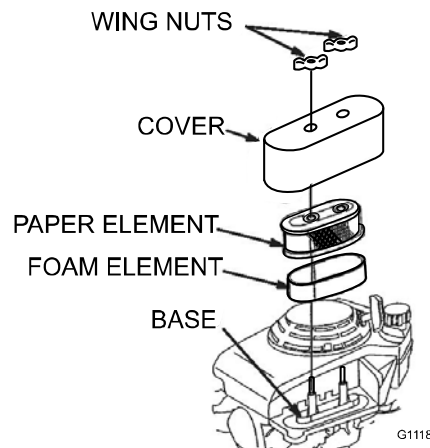

Figure 17
3. Remove the 2 wing nuts that secure the cover (Fig. 17).